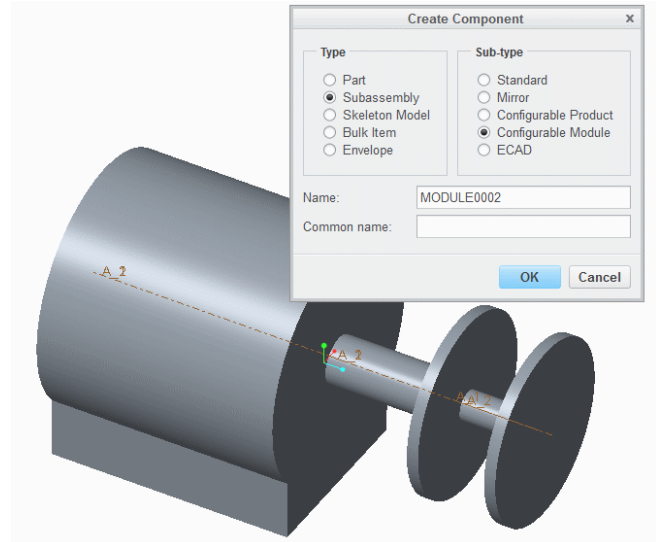

Figure 2 Configurable Module
9) Create a new component in the assembly. Make it a subassembly and a configurable module (see fig. 2 and 3) Accept the system name but select “Empty” when asked for a coordinate system (something we wouldn’t normally do) Following this the assembly model tree should now look like fig. 4.